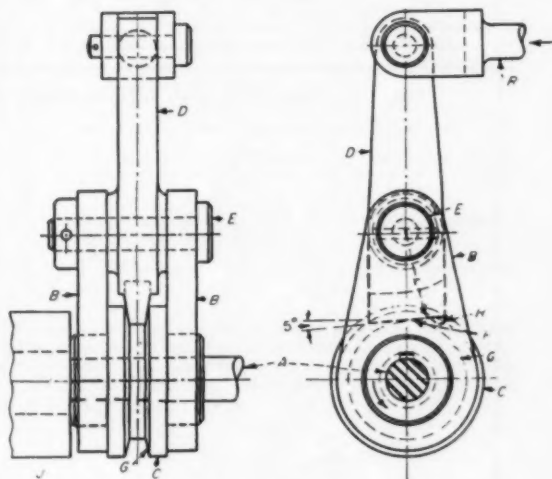
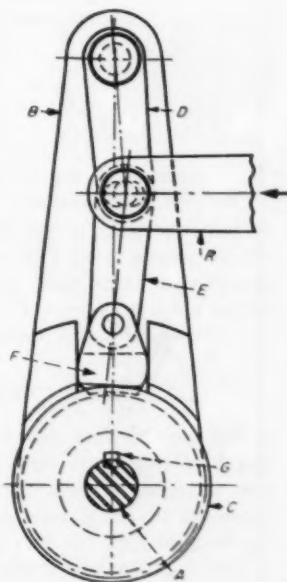

Fig. 20—Wedge and disk device.
Fig. 21 — Toggle link with wedge and disk.
The wedge and disk type of mechanism, Fig. 20, is subject to a number of variations. Here motion of the lever *D* counterclockwise about pin *E* causes wedging between the end *F* of the lever *D* and the groove *G* in the ring *C*. Continued rotation of *D* thus forces rotation of shaft *A* to which *C* is keyed. A hardened node *H* limits the relative motion of *D* and *B* in the reverse direction by bearing against the bottom of the groove *G*. This arrangement may be replaced by a toggle link and disk, Fig. 21, spring-backed sliding pin or roller, rocker arm and disk or other combinations.
18. W. M. Halliday—"Friction Devices for Intermittent Rotary Motion," *Product Engineering*, Aug. 1955, Pages 176-177. (Figs. 20, 21)